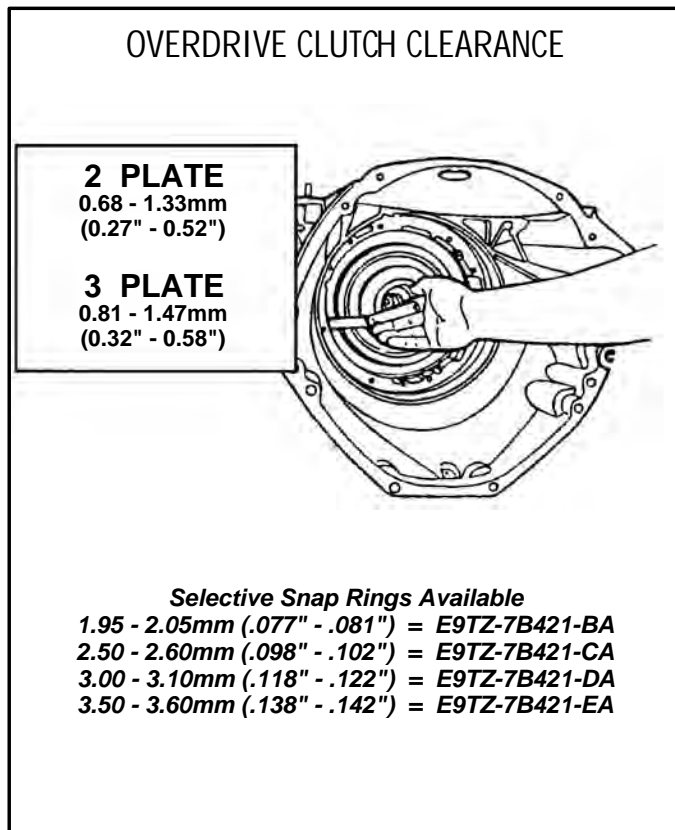

Figure 182
23. Measure the overdrive clutch clearance using a feeler gauge between the selective snap ring and the backing plate (See Figure 182).
24. Refer to Figure 182 for the specification as the 2 plate and 3 plate stacks are different.
25. Change the selective snap ring as necessary to obtain the proper clearance. The selective snap rings available are listed in Figure 182, along with the OEM part number.